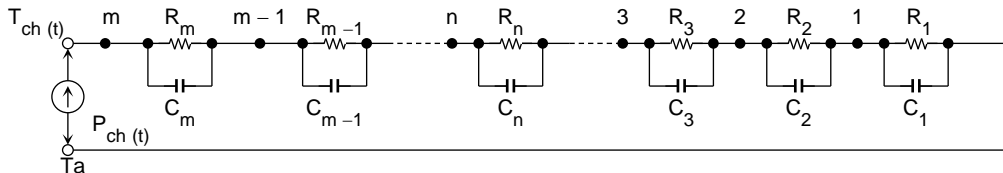
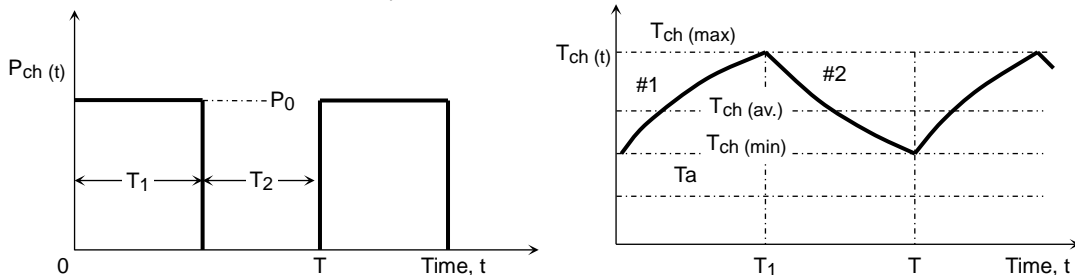

Figure 1.2 Thermal Impedance of a Power MOSFET
Figure 1.3 Change in Temperature Caused by Applying Pulse
Generally, the thermal impedance of a power MOSFET is modeled as a distributed constant circuit as shown in Figure 1.2.
When a power loss $P_{ch}(t)$ shown in Figure 1.3 is applied to the circuit in Figure 1.2, the change in temperature $T_{ch}(t)$ that appears at the m -th parallel RC circuit under stable thermal conditions can be calculated as follows:
When a repetitive pulse train with a cyclic period of T is applied as shown in Figure 1.3, T_{chpeak} in a thermally stable state is calculated as follows:
If a regularly repetitive rectangular waveform as shown in Figure 1.3 is applied to a device, Equation (8) can be used to calculate the peak of the channel temperature increase. If multiple rectangular waveforms mentioned above are periodically applied, it is necessary to create a separate model and apply the equation to that model.